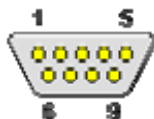

Figure 4-28: CN21 Pinout Locations
- CN Pinouts:** See Table 4-30 and Figure 4-28